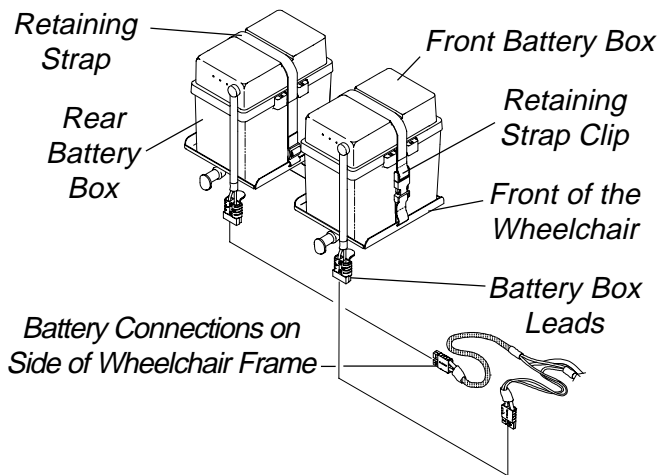

FIGURE 5 - INSTALLING/REMOVING BATTERY BOXES
**INSTALLING/REMOVING BATTERY BOXES (FIGURE 5)**